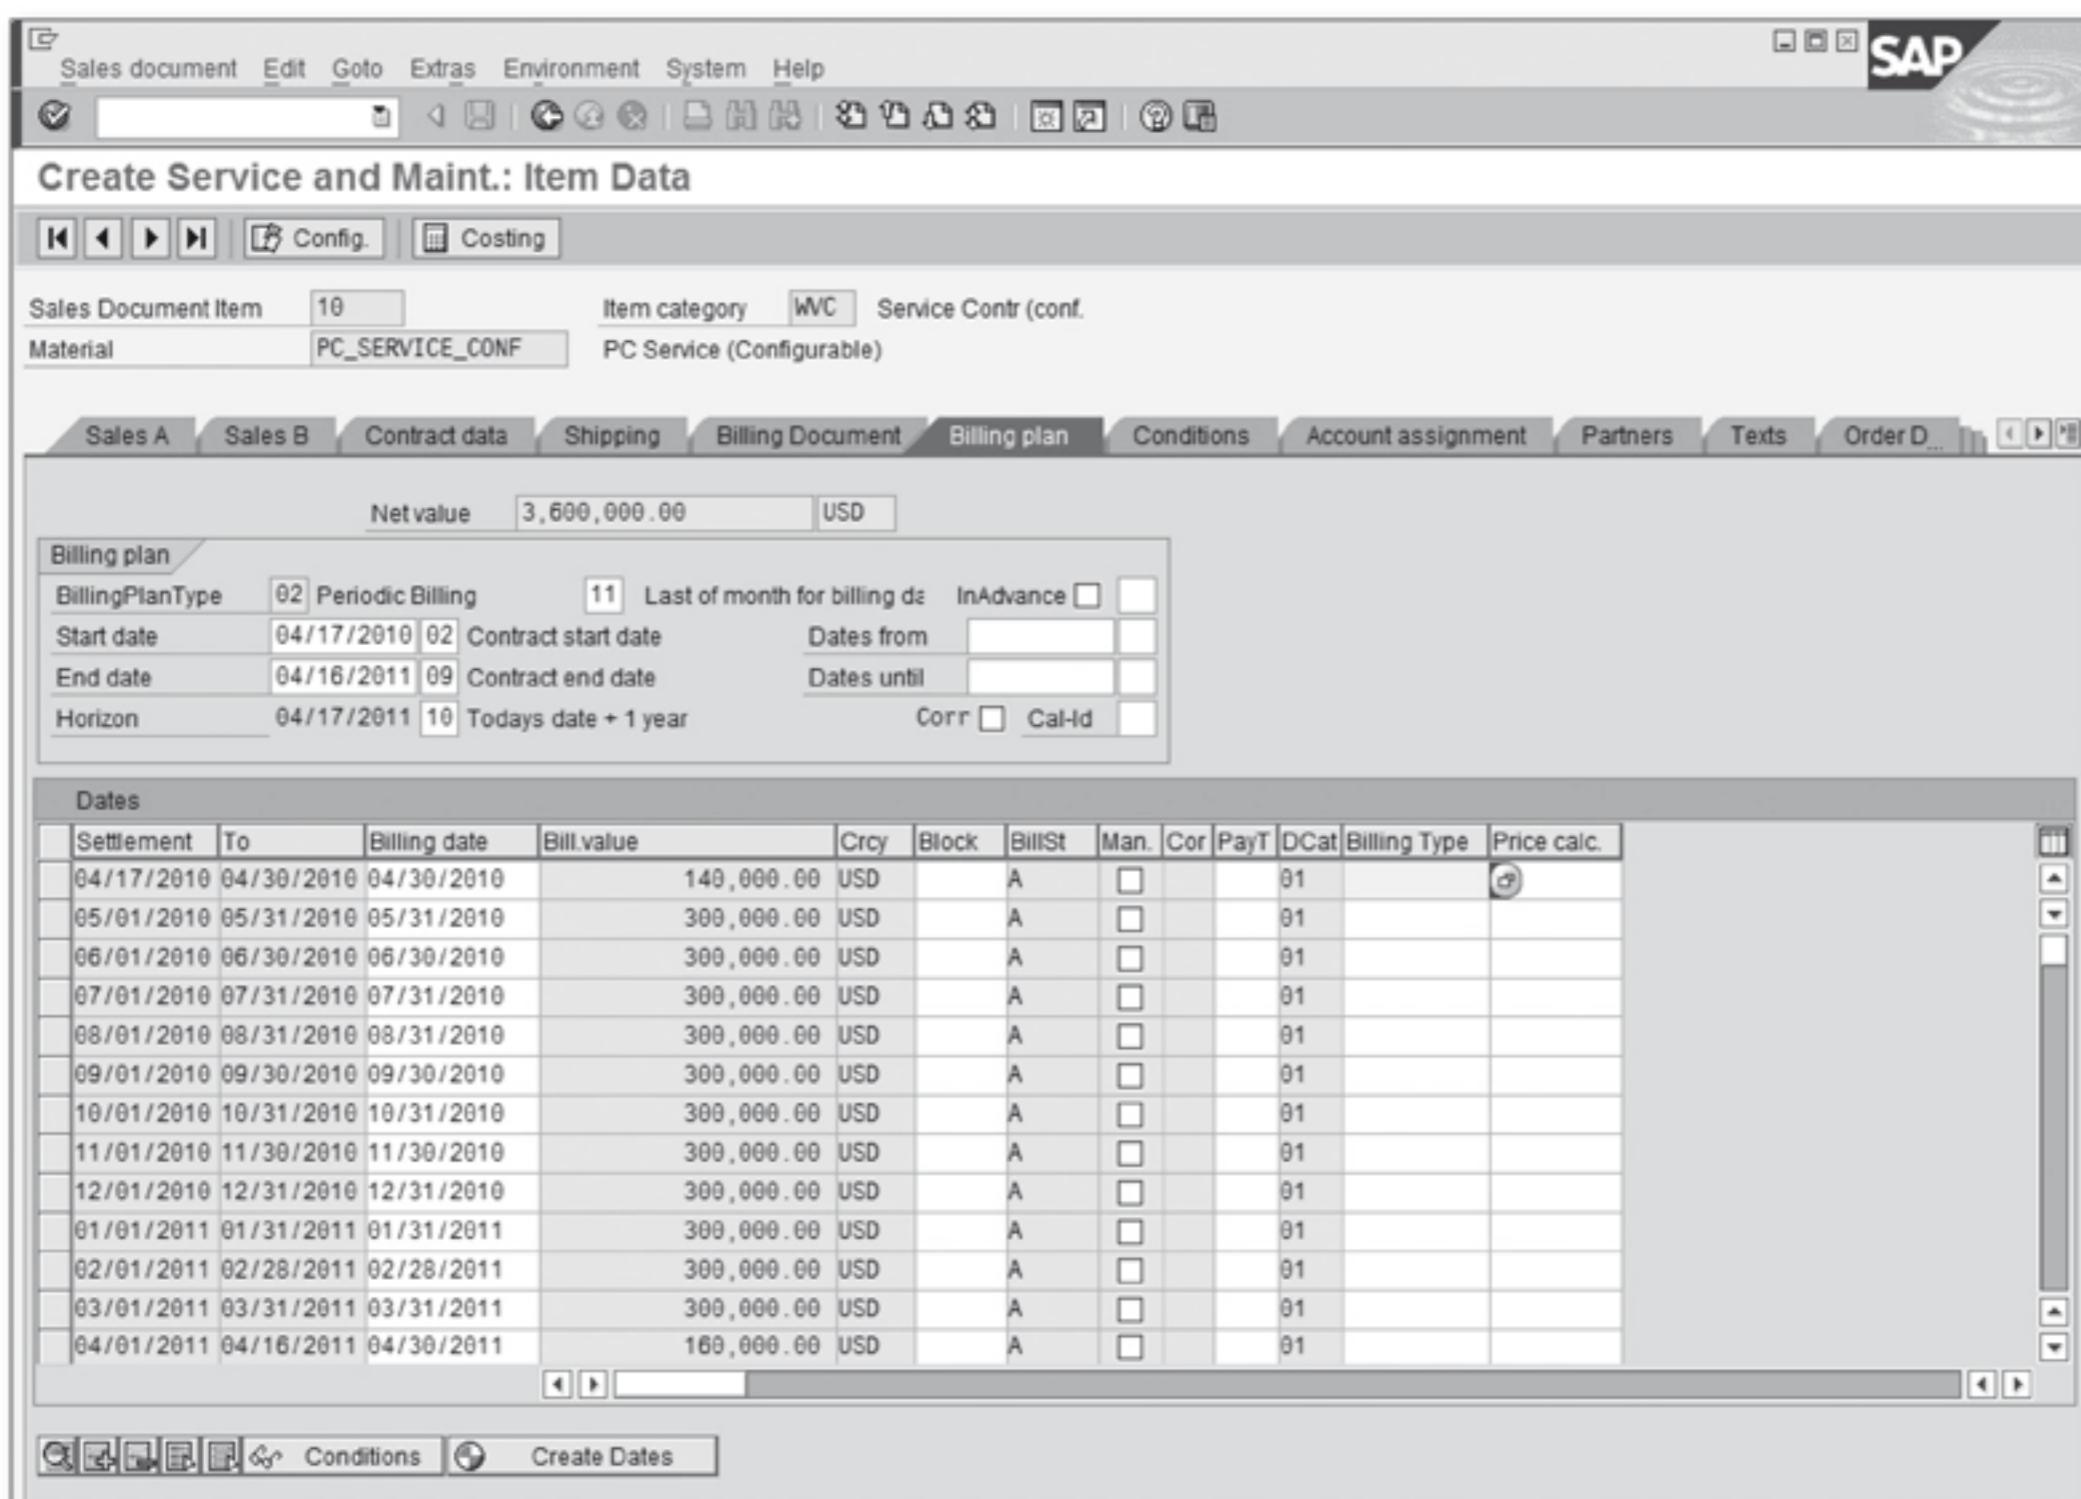

Figure 5.33 Billing Plan Details Screen
5. On the details of the Billing Plan tab, you'll find information about the type of plan defaulted into your transaction, the start and end date, and the horizon code (see Figure 5.33). Based on these configuration settings, the system will determine the settlement dates for you and the billing amounts that will be proposed during the execution of the billing due lists.